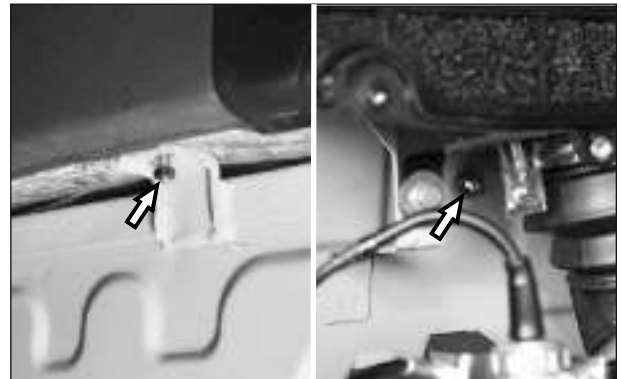

Fig. 5.88
- Loosen and remove 2 nos. Hexagonal nut M6 passenger bottom seat mounting. (Fig. 5.88)
- Loosen and remove 3 nos. Hexagonal nut M6 along with 1 no. Plain washer passenger top seat mounting. (Fig. 5.88)